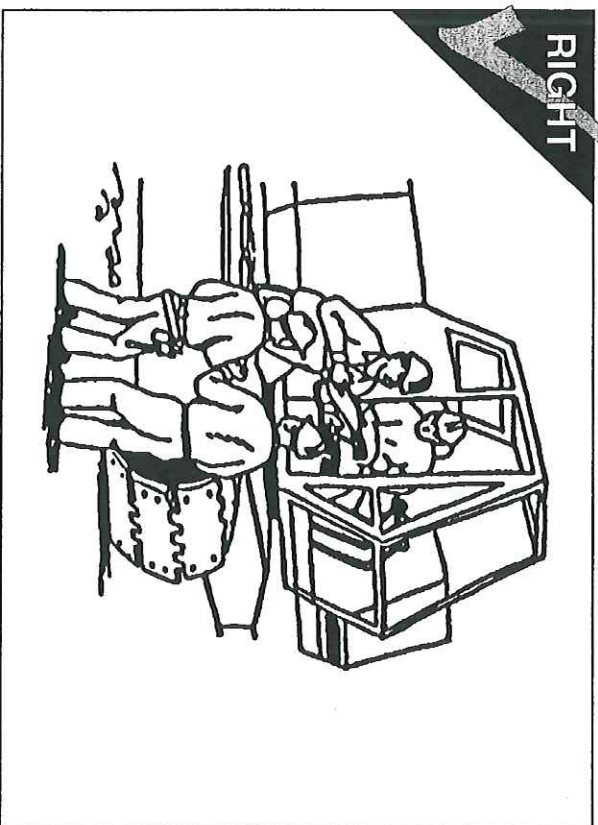

FIG. 47
- A meeting attended by the crane operator, signal person(s) (if necessary for the lift), employee(s) to be lifted, and the person responsible for the task to be performed shall be held to review the appropriate requirements and the procedures to be followed. (FIG. 47)